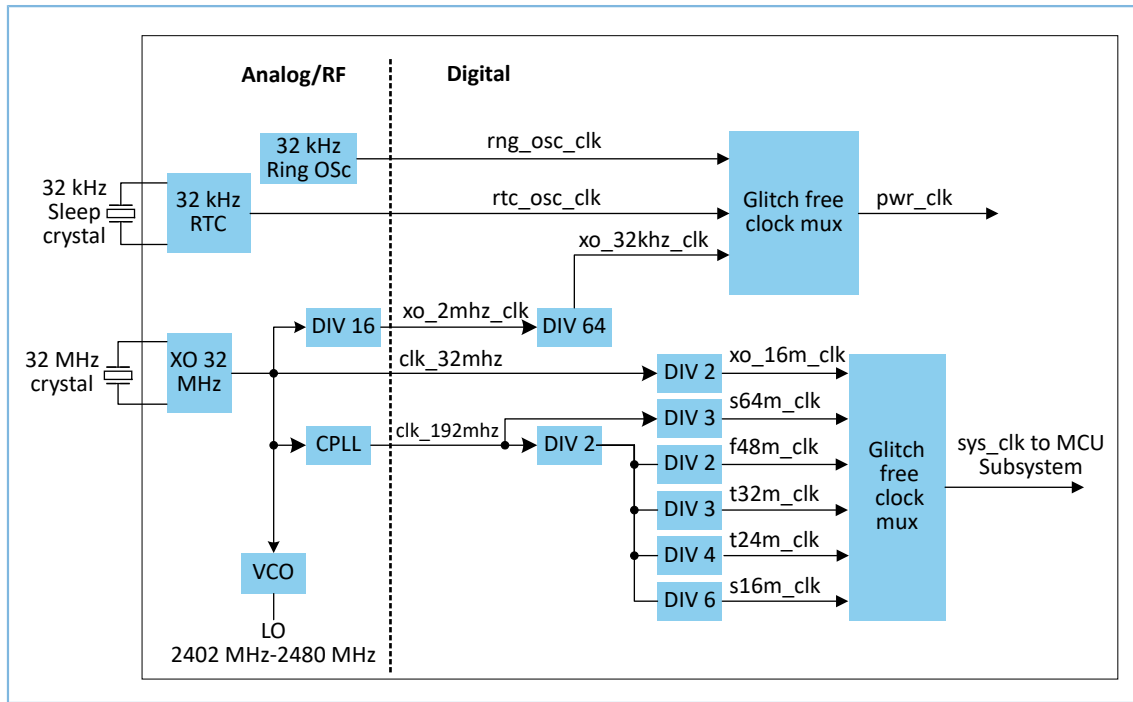

Figure 9-1 GR551x clocking scheme
GR551x clocks are generated using a crystal oscillator (XO) that requires a 32 MHz external crystal, which is needed to meet the offset requirements of the Bluetooth Core Spec v5.1. Figure 9-1 shows the clocking scheme of GR551x.